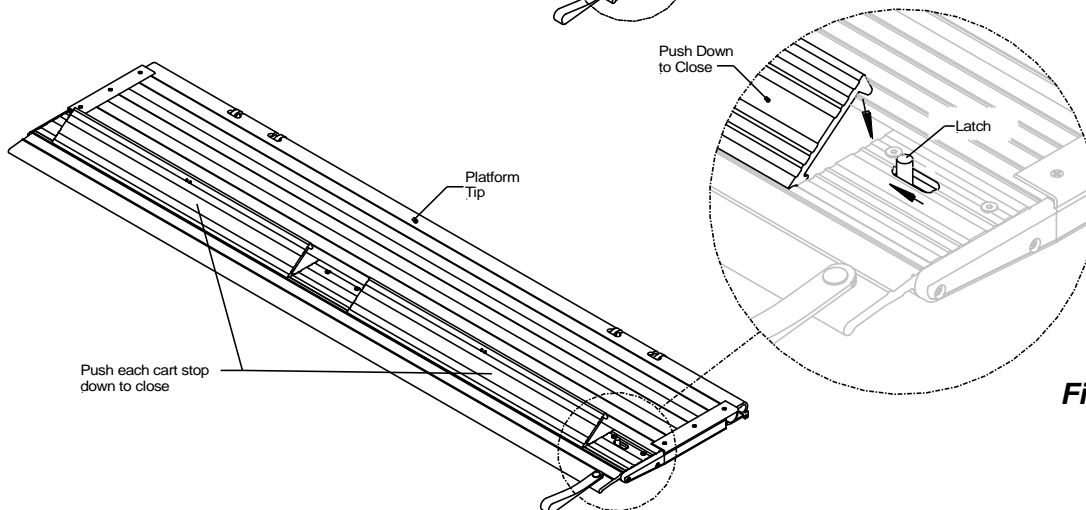

Fig.16
2. To close the cart stops, push the cart stop latch inward towards the street side, **Fig.16**. After the latch is in place close each cart stop by stepping on each stop down.